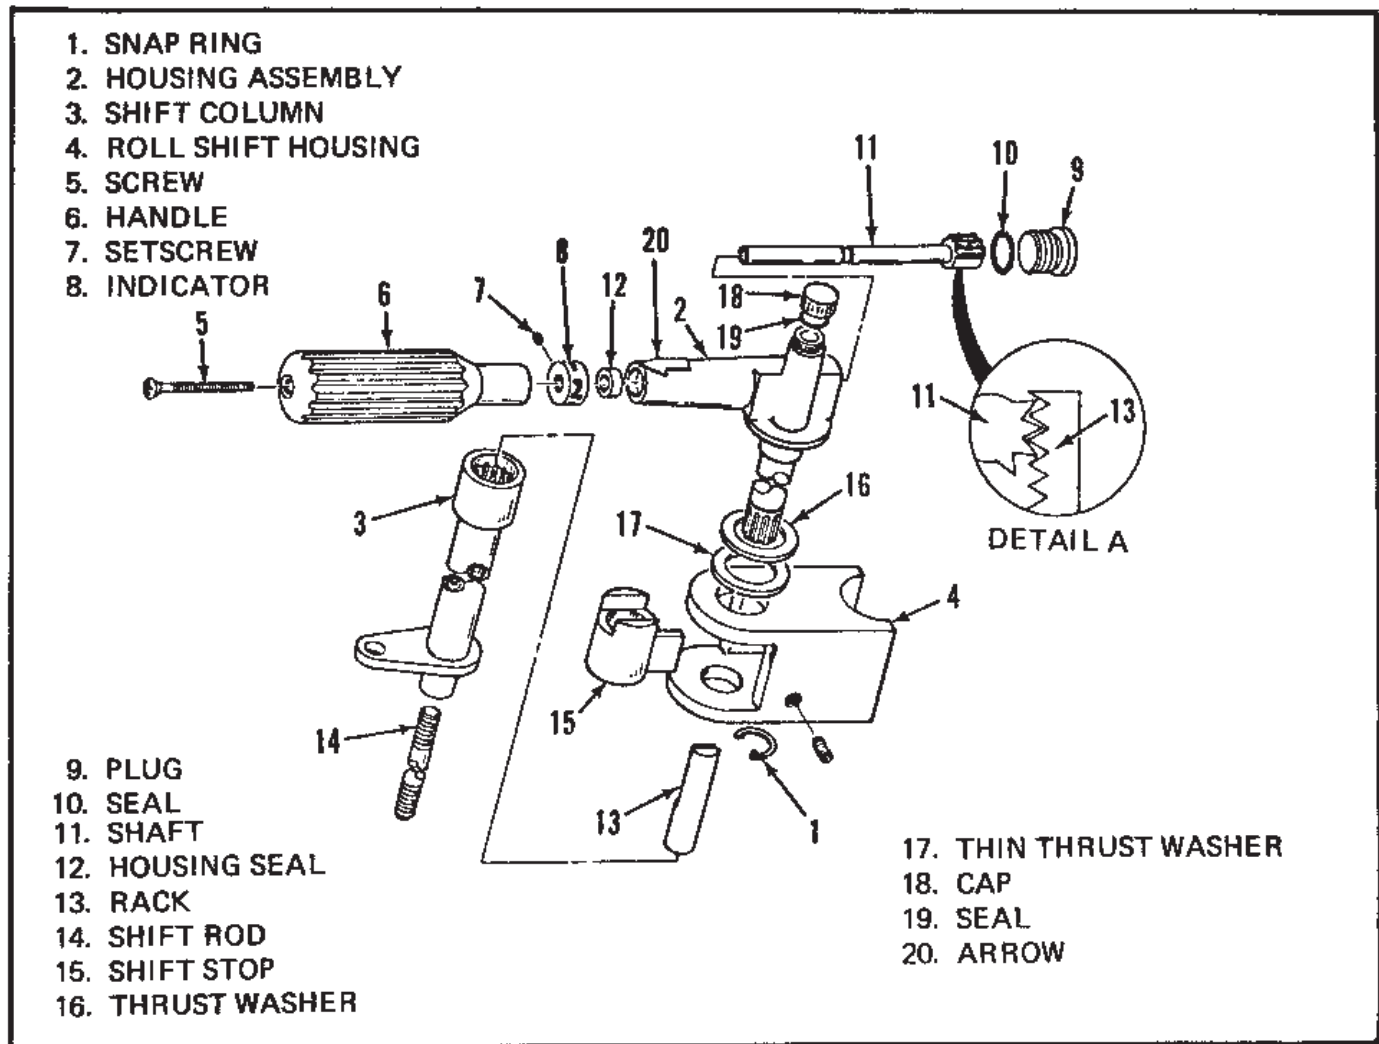

Figure 09C-4. Roll Shift Assembly
If the shift stop (15) cannot be removed after moving the shift rod (14) down as far as it will go, (refer to Figure 09C-3) and disconnect the rod end (14) on the lower end of the shift rod (22) from the bellcrank (3) to obtain sufficient clearance.
- a. Install the shift stop (15), if removed.
- b. If the rod end on the bottom of the shift rod (14) was disconnected from the bellcrank (see Figure 09C-3), reconnect the rod end to the bellcrank.
- c. Install the rack (13) on the shift rod (14).
- d. Position the thick thrust washer (16) and the thin thrust washer (17) on the shaft of the housing assembly (2), and insert the housing assem-
- f. Remove the cap (18) and seal (19).
- g. Partially insert the shaft (11) into the housing (2). Observe the top of the rack (13) and the shaft (11) through the hole in the housing (2). Position the shaft (11) so that the gear tooth
segment on the shaft is in the lowest speed range position. Continue to insert the shaft (11) into the housing (2) until the teeth on the shaft (11) start its mesh with the teeth on the rack (13). As the teeth mesh, the rack must be in position so that one tooth on the rack (13) is above the last tooth on the gear tooth segment of the shaft (11), (see Figure 09C-4, detail A).
- h. Replace the housing seal (12), if removed.
- i. Slide the indicator (8) onto the shaft (11).
- j. Install the handle (6) and screw (5).